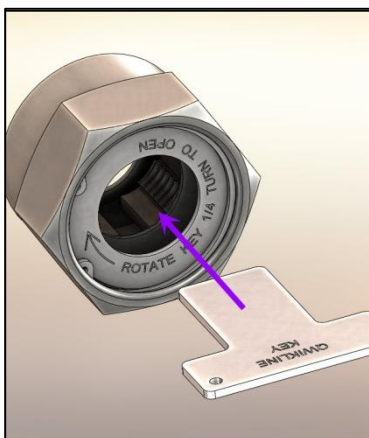

Figure 1 – Insert QwikLine™ Key and turn the key clockwise to rotate the QTC to the open/ ready position
- 2) Prepare the QTC for use by inserting the key into the top of the QTC and rotating clockwise approximately 1/4 turn to move the QTC from the "closed" position into the "open/ready" position (see Figure 1). If unsure whether the QTC is in the open or closed position, rotate key back and forth 1/4 turn until QTC rests in the right-most position, which is the open position.
- 3) Leave the QTC in the “closed” position after each use. Keeping the QTC in the closed position after use keeps debris out of the QTC. The QTC should only be moved to the open/ready position immediately prior to use (see Figure 1 in Instructions for Use).
- Ensure QTC is in open/ready position (see Figure 1 in Instructions for Use).